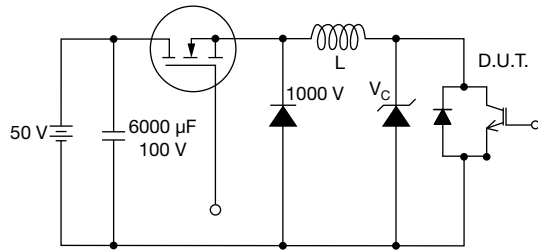

Fig. 19 - Clamped Inductive Load Test Circuit
(2)  $V_{CC} = 80\% (V_{CES})$ ,  $V_{GE} = 20\text{ V}$ ,  $L = 10\text{ }\mu\text{H}$ ,  $R_g = 22\text{ }\Omega$  (see fig. 19)